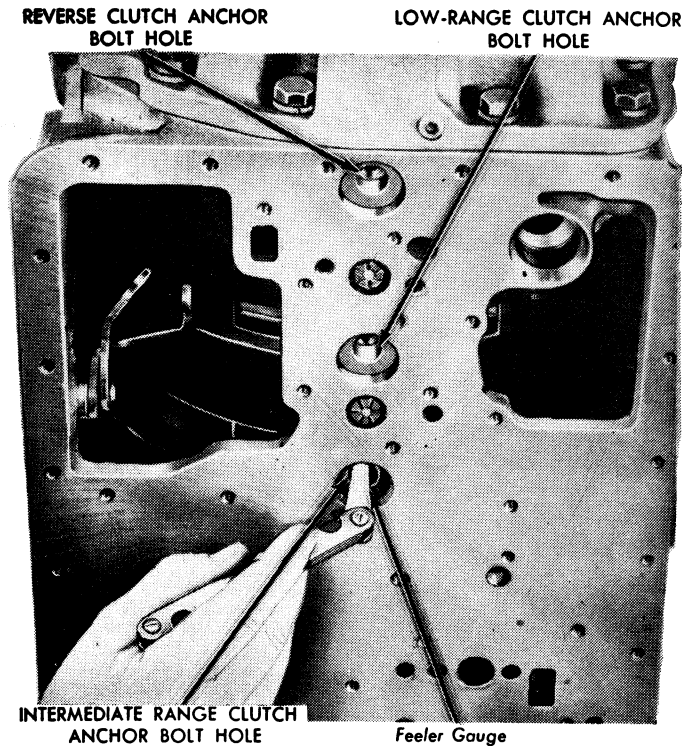

Fig. 14 Checking reverse, low and intermediate clutch plate clearances
- anchor bolts and, using a narrow feeler gauge in bolt holes and narrow screwdriver, separate apply plates and friction clutch plates in each range and measure clearance between them, Fig. 14. Clearance for intermediate range should be .020-.030". A minimum clearance of .008" in the low and reverse clutches and .018" in intermediate clutch is allowable. If clearances are correct, install anchor bolts removed and torque them to 35-40 lb. ft.